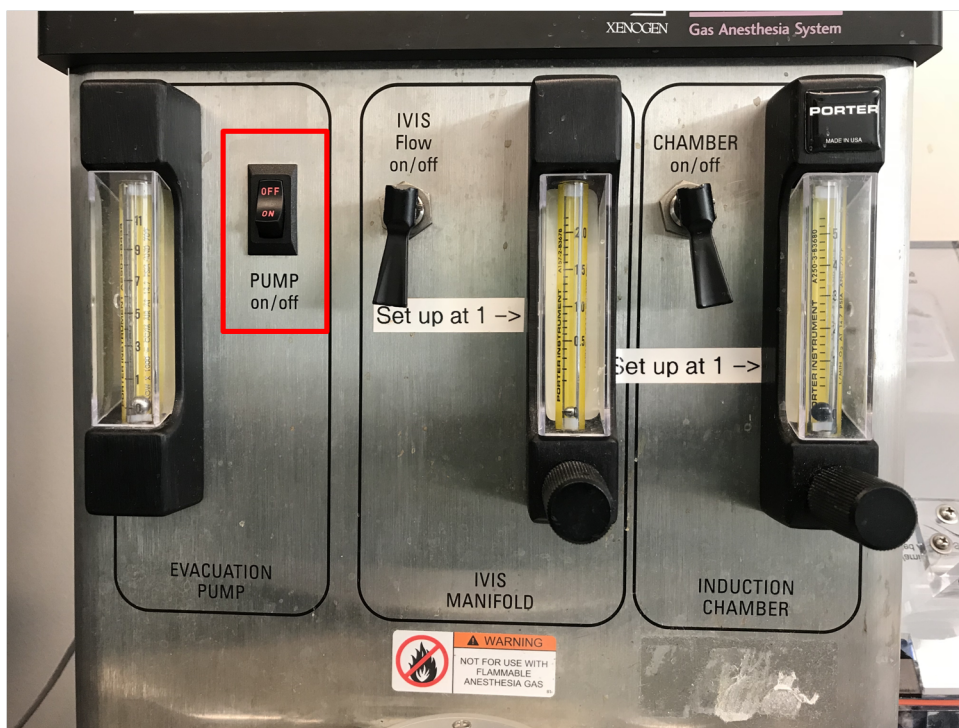

Figure 5: The figure above shows the Gas Anesthesia System. The evacuation pump switch is highlighted in red.
5. Turn on the Evacuation Pump using the switch located on the front left side of the anesthesia system unit. See Figure:5